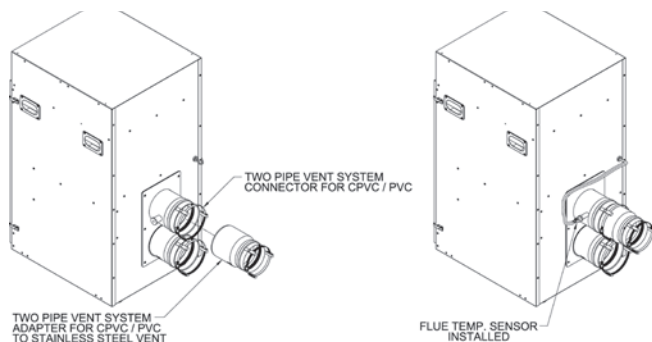

Figure 16: Field Installation of Two-Pipe Vent System Adapter for Stainless Steel
- c. Push and twist PVC to stainless steel adapter into two-pipe vent system connector vent or combustion air supply port until bottomed out. See Figure 16.